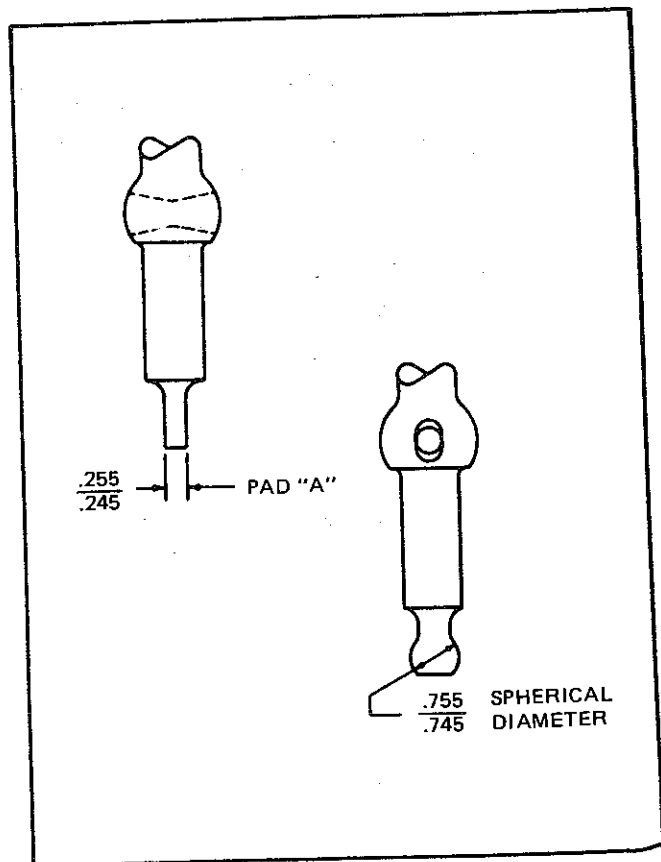

Figure 2 – Shift Lever Finger
2. Inspect finger end of shift lever for excessive wear. See Figure 2 for original contour.